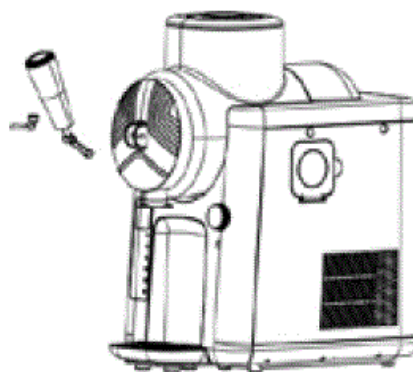

Fig. 4
12. Now insert the tap into the opening and insert the locking pin to secure the tap (Fig. 4): To do so, the holes in the outlet and the lever on the tap must be aligned one above the other; then insert the locking pin and turn it until the small pin on the side fits into the hole on the appliance. In case the white piston is not correctly seated in